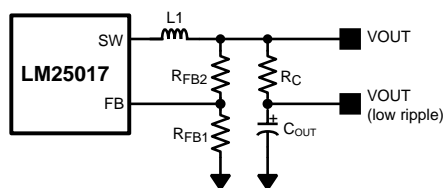

Figure 10. Low Ripple Output Configuration
This regulator regulates the output voltage based on ripple voltage at the feedback input, requiring a minimum amount of ESR for the output capacitor (C_{OUT}). A minimum of 25-mV ripple voltage at the feedback pin (FB) is required for the LM25017 device. In cases where the capacitor ESR is too small, additional series resistance may be required (R_C in Figure 10).
For applications where lower output voltage ripple is required, the output can be taken directly from a low ESR output capacitor, as shown in Figure 10. However, R_C slightly degrades the load regulation.